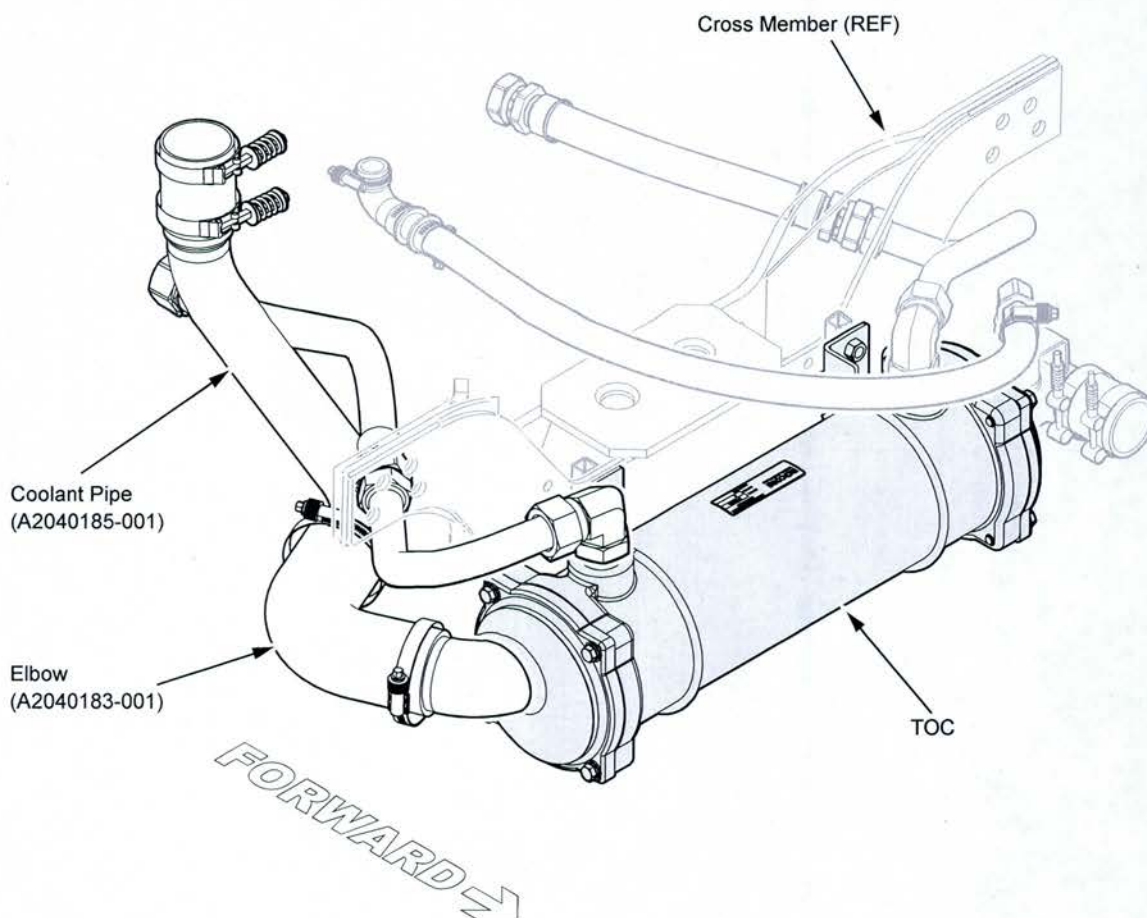

Figure 12
20. On the RH side of the TOC, using 2 hose clamps (GZ220015-006), install the elbow (A2040183-001). Tighten the hose clamps to 60 In-lb (7 N-m) of torque (see Figure 12).
21. Install the coolant pipe (A2040185-001) onto the elbow (see Figure 12).